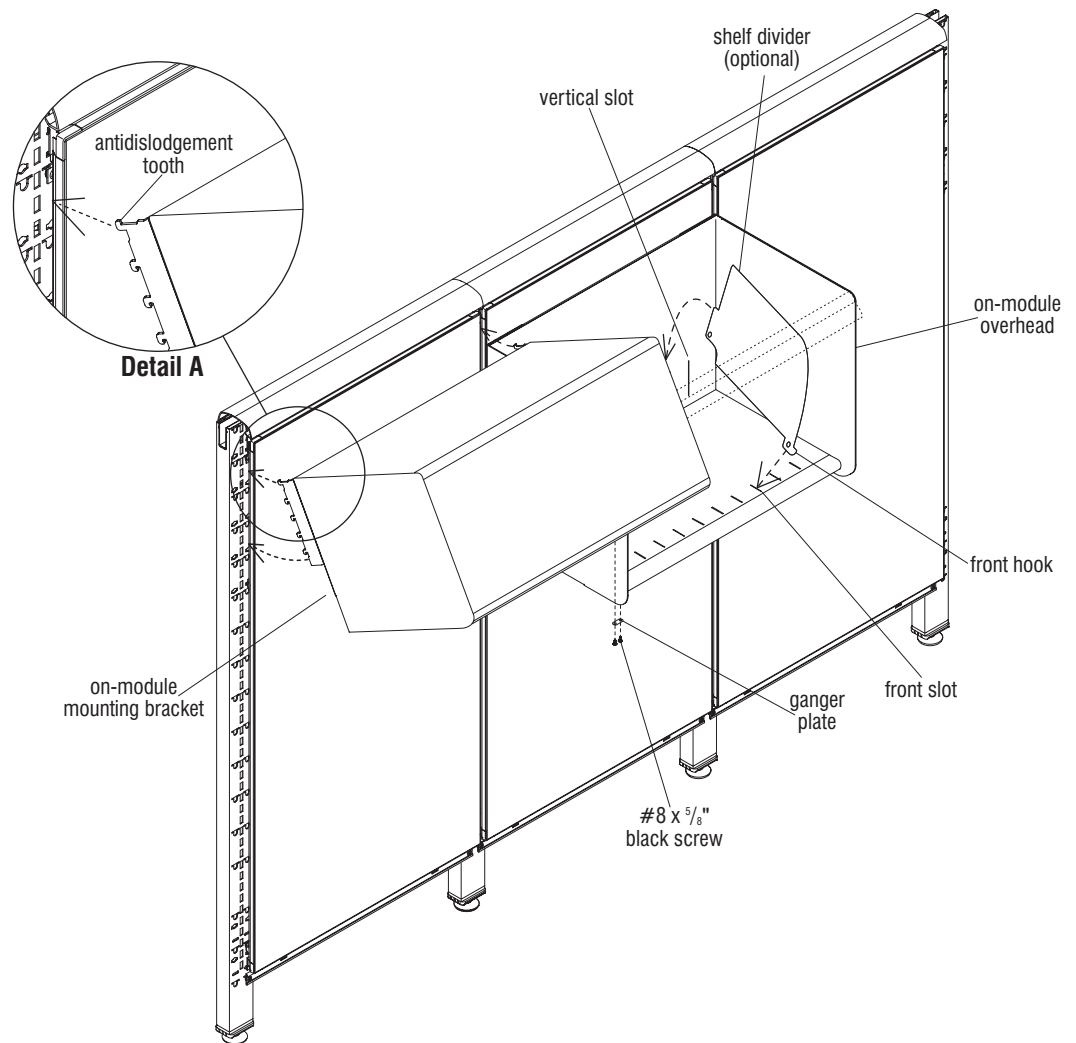

Figure 6
12. When two or more cabinets are installed next to each other, secure them together with a ganger plate. Fasten a ganger plate to the cabinet bottoms with two #8 x 5/8" black screws (Figure 6).
13. To install shelf dividers (optional), first place the front hook of the divider into the front slot of the shelf. Then rotate the rear of the divider down until the the tab snaps into the vertical slot in the cabinet back (Figure 6). To remove the divider, press lightly on the cabinet back to release the rear tab and rotate it out.